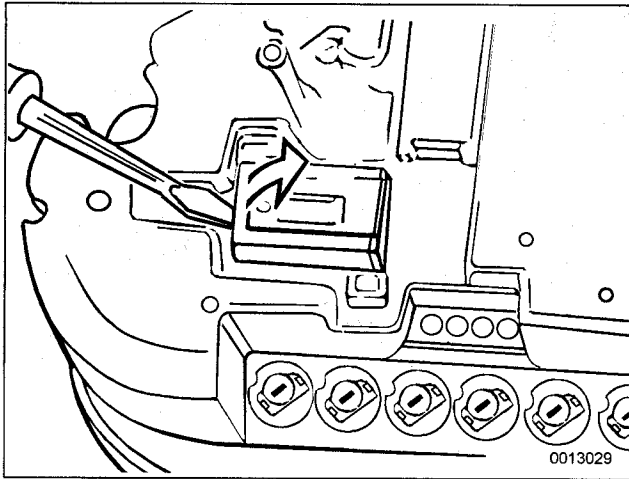

Fig. 5. Remove coding plug retainer with a screwdriver (arrow).
3. Break open plastic retainer in back of instrument cluster and remove coding plug. See Fig. 5.